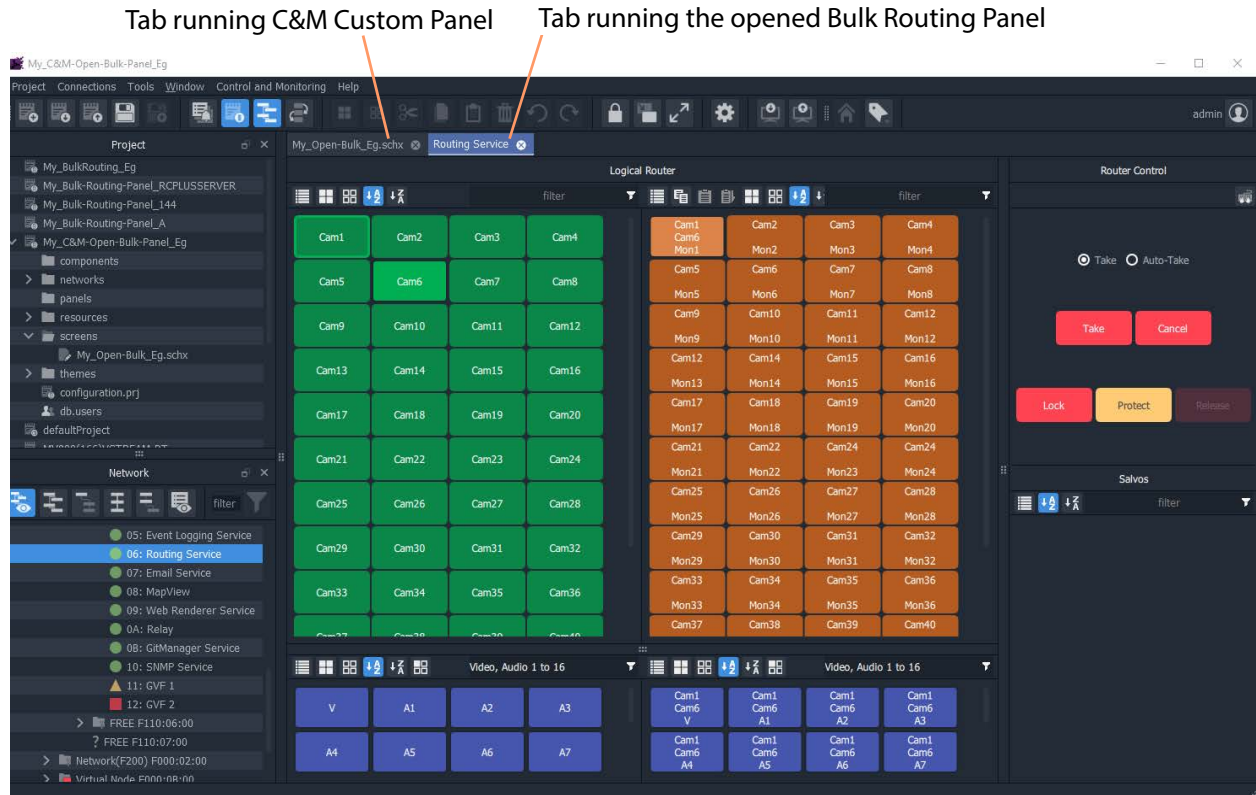

Fig. 13-96: Bulk Routing Panel Opened in a Tab
- 2 Click on the **Button** widget to open a new tab containing an Bulk Routing Panel. See Figure 13-96.